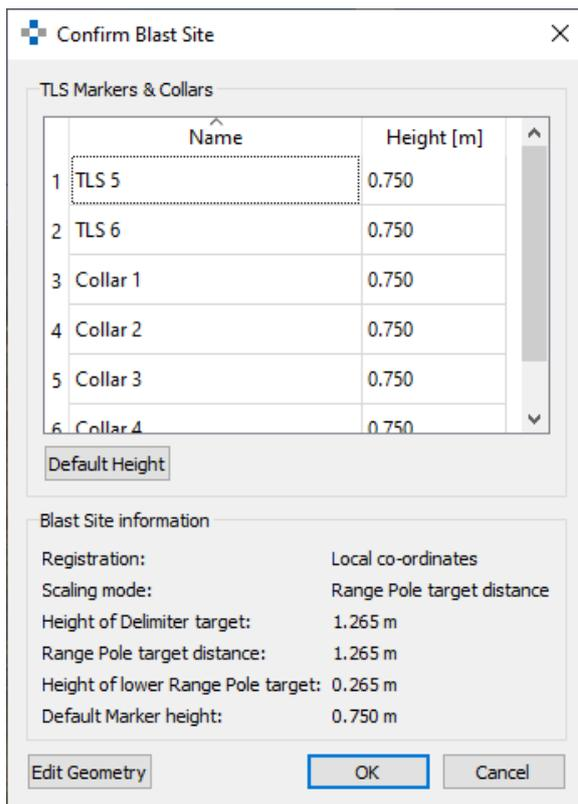

Figure 8: Editable summary for TLS and Collar Markers
Upon saving the blast a summary table about the defined *TLS Markers* and *Collar Markers* appears. It is possible to modify the height offset by a click into the list (Figure 8).
16. Save the *Blast Site* by clicking “File | Generate and Save” in the menu bar clicking the corresponding icon  in toolbar 1. *BMX BlastSiteGenerator* asks for confirmation of the marker sizes, the scaling mode and, if available, the heights of the *TLS* and *Collar Markers* (Figure 8).